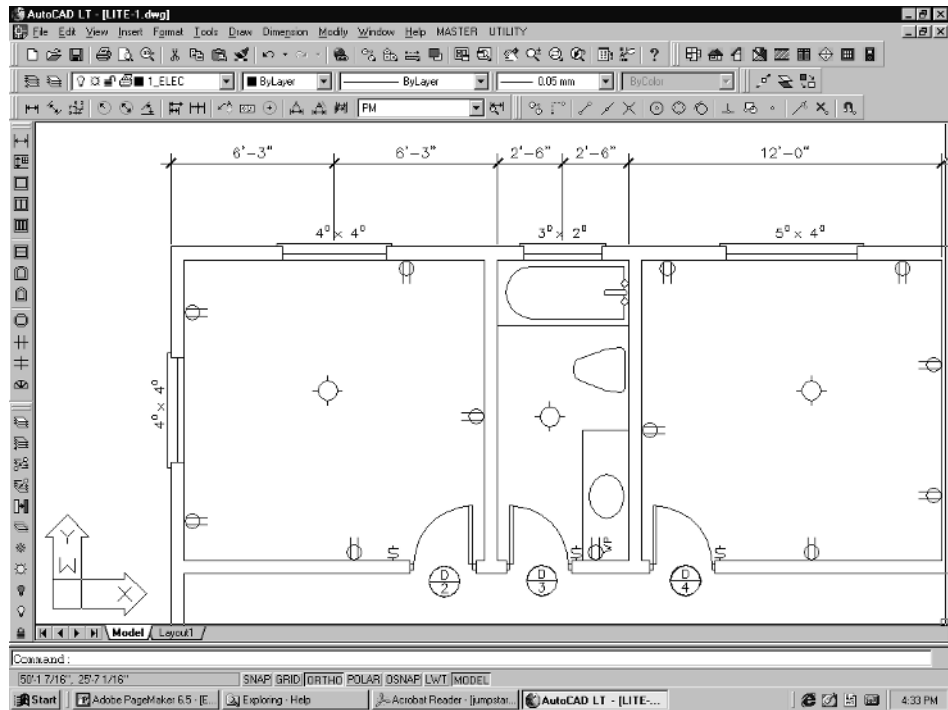

Figure 6-44
4. Notice when any one of the icon menus comes up there is always a button that will take you back to the main Plan Menu. This feature allows you to navigate to any of the other menus easily, without leaving the icon menus. In this case we will go to the electrical menu and insert some outlets and switches into the drawing. So, pick the **Plan Menu** button. When the Plan Menu comes up, double-pick on the **Electrical Symbols** button. Inserting the electrical symbols is easy. Just pick any of the symbols from the menu and pick an insertion point. Then rotate it to the correct angle. The electrical symbols will automatically be drawn on a layer named **1_ELEC**. See Figure 6-44 for examples of electrical symbols drawn in the floor plan.